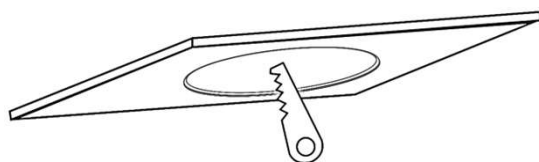

Fig.1.
- Cut the installation hole of Ø90mm into the ceiling. (Fig.1).